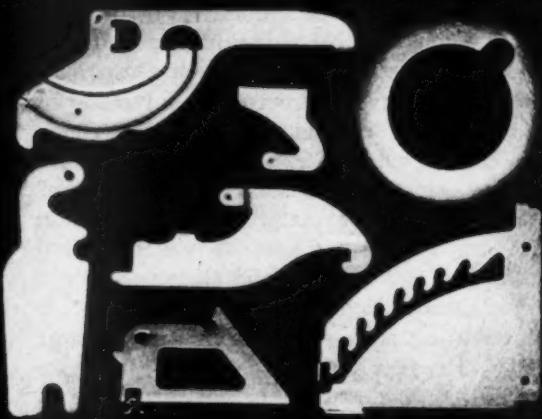

Fig. 1—Group of aluminized metal parts for use at elevated temperatures
**Processing:** The aluminizing process, as discussed in this article, is one of the simplest available today and has been successfully used for a number of years, Fig. 1. This process is suitable not only for ferrous metals but also for a number of nonferrous metals as well. Minor modifications in processing are necessary for aluminizing copper and copper-base alloys. Both cast iron and steel are treated in an identical manner, depending of course on the end use of the part.